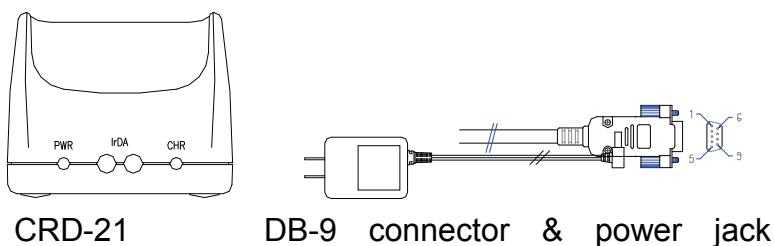

Fig 6
- b. Able to communicate with PC using a widely used RS-232 or USB interface as shown in Fig 6.
There are 2 LEDs and 2 holes at the front bottom of the **CRD-21** as shown in Fig 6. The 2 LEDs are located on the left and right, whereas the two holes in the middle. The LED on the left is illuminated when power is on, and will not be illuminated if the power adaptor is not connected to the AC output, or the 9VDC jack is not inserted into the RS-232 connector. The LED on the right is illuminated when a battery is put in the back slot of the cradle for recharge. It will remain illuminated as long as recharging is going on until a full charge is achieved. It flashes intermittently, however, when the battery slot is empty, indicating that the cradle is detecting the presence of the battery. The LED at the upper-right corner of the terminal is illuminated when the terminal is placed on the cradle for a recharge, and will be off when a full recharge is achieved.